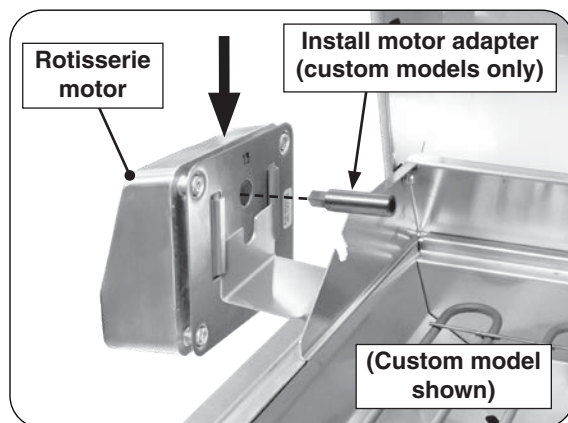

Fig. 21-3 Install rotisserie motor
3. Slide the rotisserie motor fully onto the motor bracket located on the left side of the grill (Fig. 21-3).
Note: Rotisserie kits for custom models include a motor adapter. Install the motor adapter as shown in Fig. 21-3.